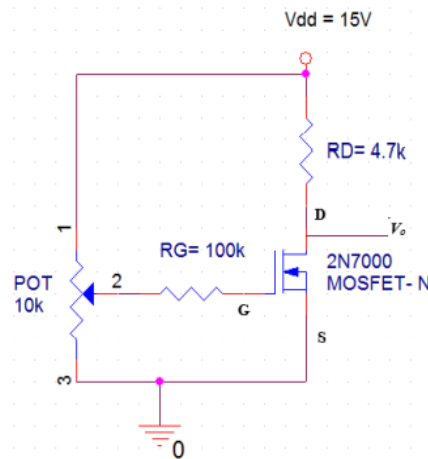

Figure 3: Common Source 2N7000 MOSFET Configuration
- Using the same circuit as shown in Figure 3, increase the gate voltage so that it is 0.25 volts above threshold. Calculate the drain current by measuring the voltage drop across the drain resistor R_D . Note down the calculated values in Table 04.